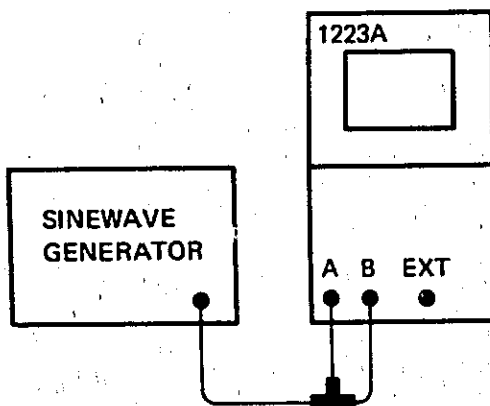

Figure 4-9. X-Y Phase Shift and X-Axis Bandwidth Test Setup.
1. Connect Sinewave Generator to 1223 as shown in Figure 4-9 and set the 1223A controls as follows: